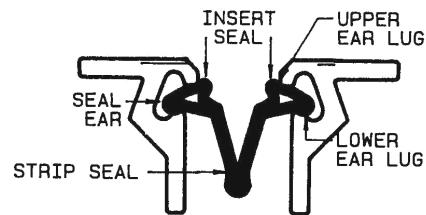

FIGURE 2
- Fold the seal and place in joint opening allowing the lug to seat into the extrusion cavity (working in 5 foot increments) (FIGURE 2)